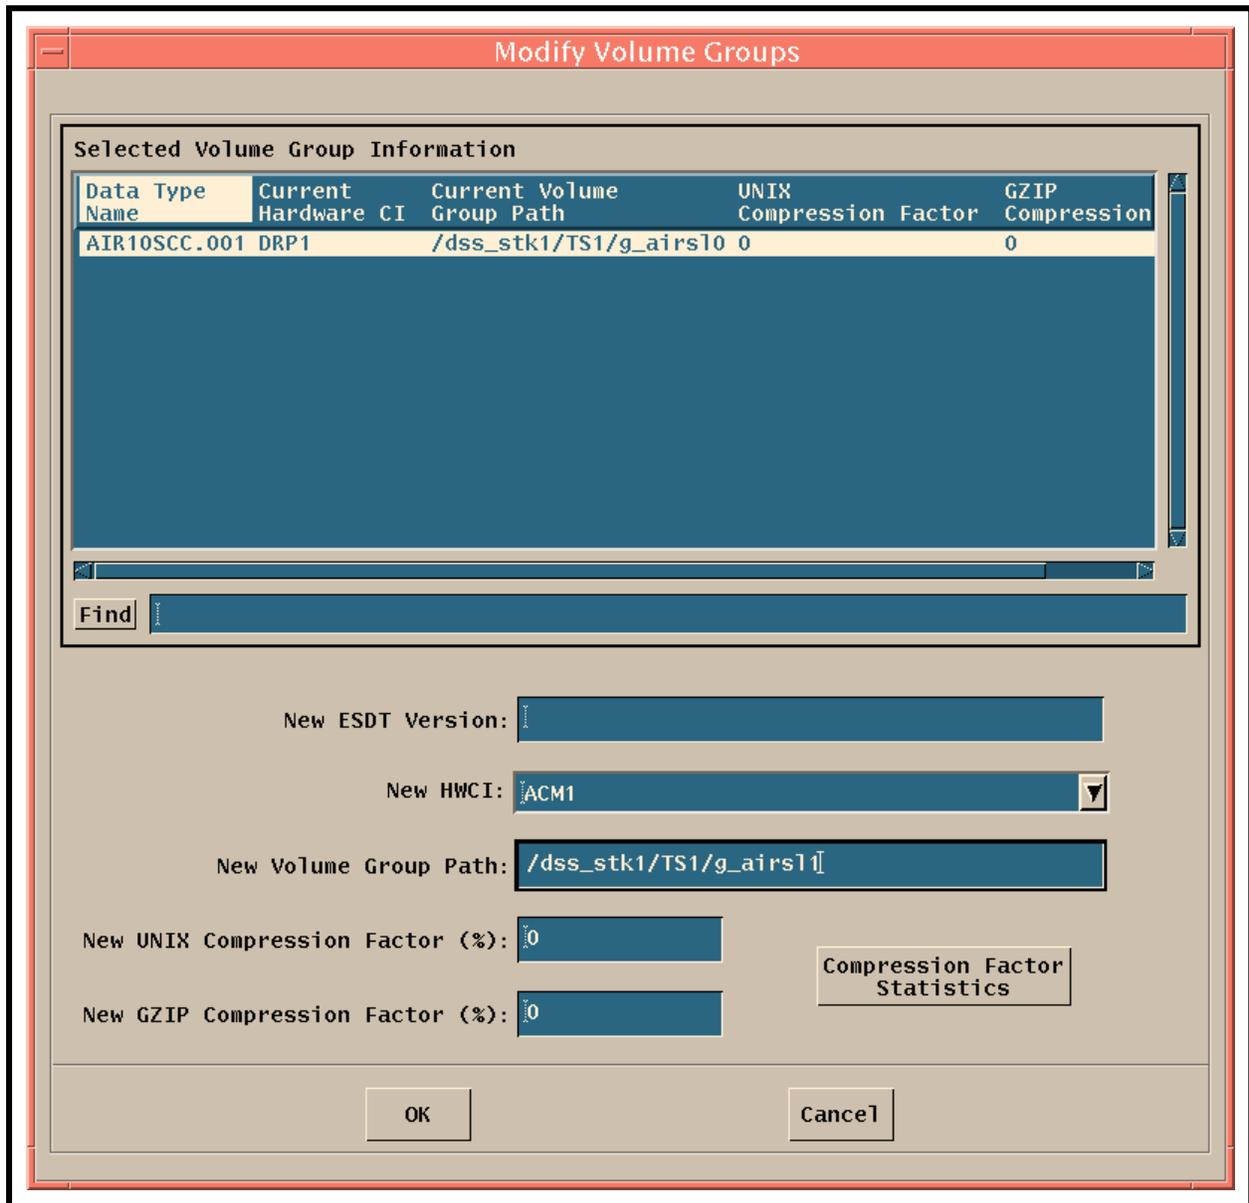

Figure 18. Modify Volume Groups GUI with Entries
- A view of the Modify Volume Groups GUI with user entries made is illustrated with Figure 18.